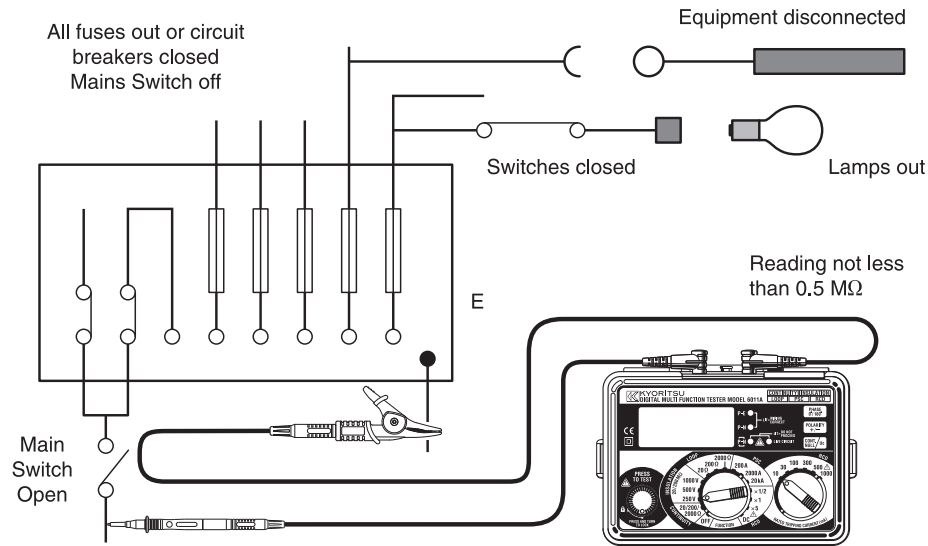

Fig 7
2. Attach the test leads to the instrument and to the circuit or the appliance under test (see Figs 7 & 8)